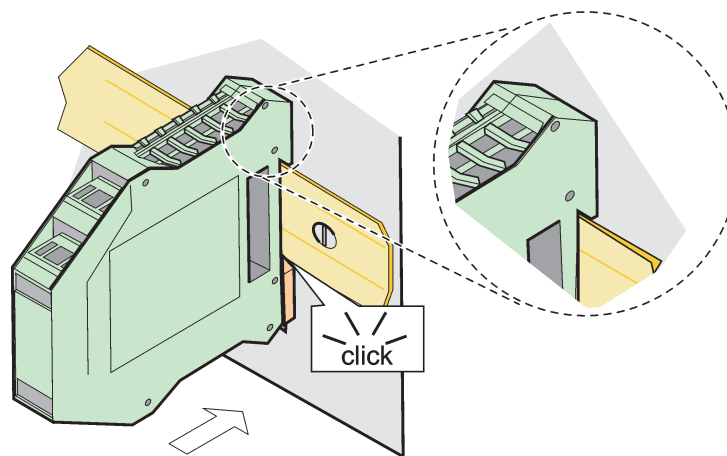

Figure 73 Attaching an expansion module
3. Swivel the module downwards and press it into the DIN rail until it audibly engages (Figure 73).